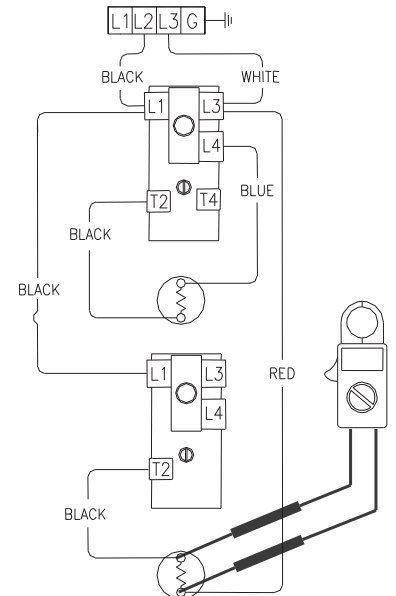

Figure 38
8. Check across lower element terminals (see Figure 38).